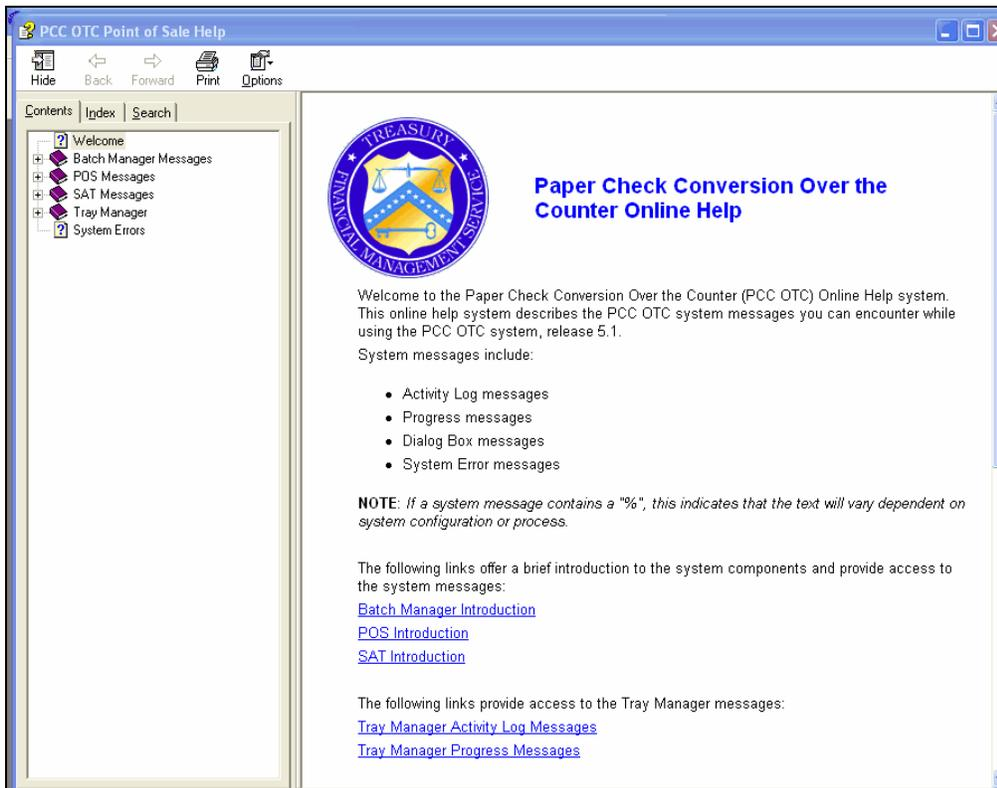
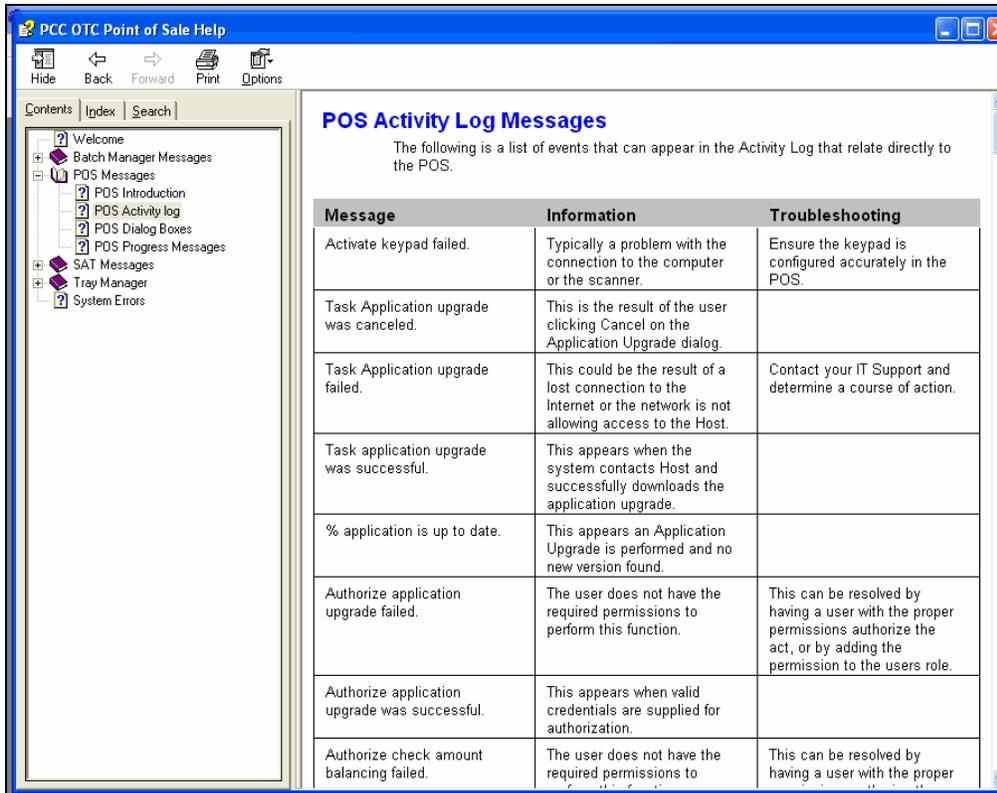

Figure 3.39
Figure 3.40
- Contents – Displays a menu of in the left pane that includes a Welcome screen – Introduction to Batch Manager, the POS and the SAT as displayed below in Figure 3.39. System messages for each application can also be displayed by clicking in the appropriate area of the left pane. The right pane includes links for the Introduction sections, Tray Manager (an application that monitors all of the PCC OTC applications) messages, System Errors, and a table of navigational key strokes to assist in using the software. An example of POS Activity Log Messages is displayed in Figure 3.40.